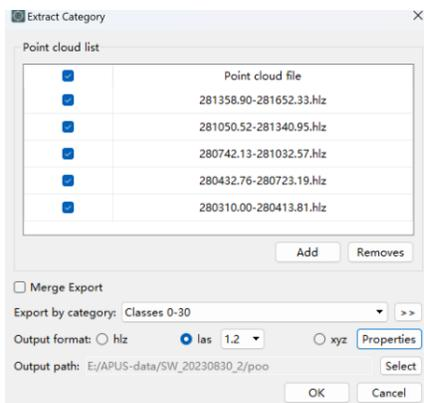

Figure 3-166 Category Extraction
- Click <Toolbox>→<Data Process>→<Extract>→< Class Export >, and a dialog box will pop up (Figure 3-166).